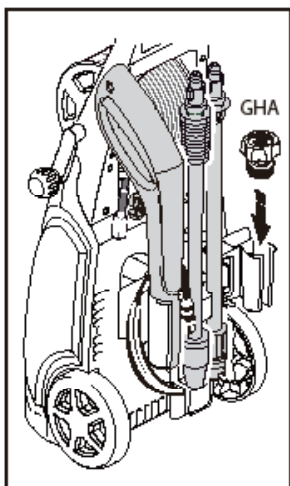

Fig. 20
- The GHA should be stored in the accessory holder when your unit is not in use to prevent loss or damage (Fig. 20).
- Remove lance or detergent bottle from the gun and place in the accessory holder. Place the gun in the accessory holder in one of the slots. Lances are pressed into and stored in the half circle notches (Fig. 20). Make sure to discard any remaining detergent from the bottle. Flush the bottle and nozzle head with fresh water to prevent clogging.